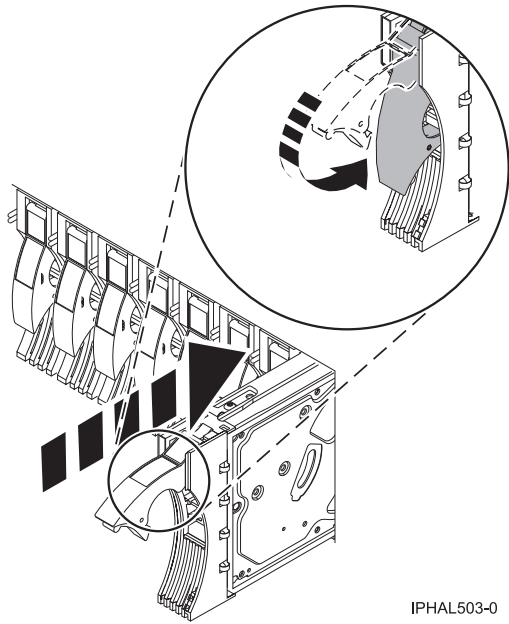

Figure 23. Installing a disk drive in a model
18. Slide the disk drive into the system unit until it stops, as shown in Figure 23 on page 37.